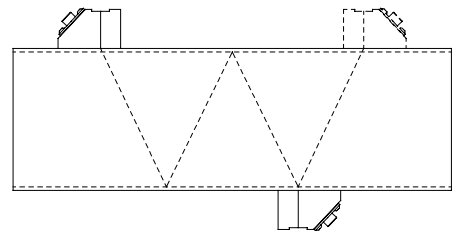

Fig 1
- ⇒ For both modes, distance **D** (cf. *fig. 1*) is measured thanks to from the marks engraved on the probe.